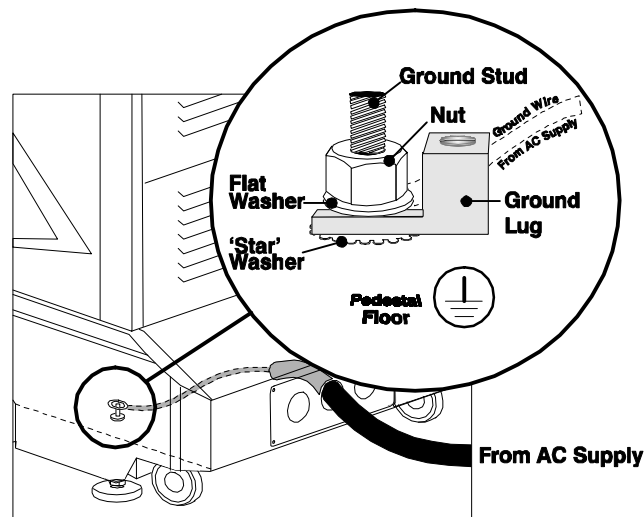

**Figure 2-19 Lamp Cradle Position**
- For 2.0 or 3.0 kW lamps, move the cradle to the rear position, i.e., approximately 1" closer to the reflector (**Figure 2-19**).